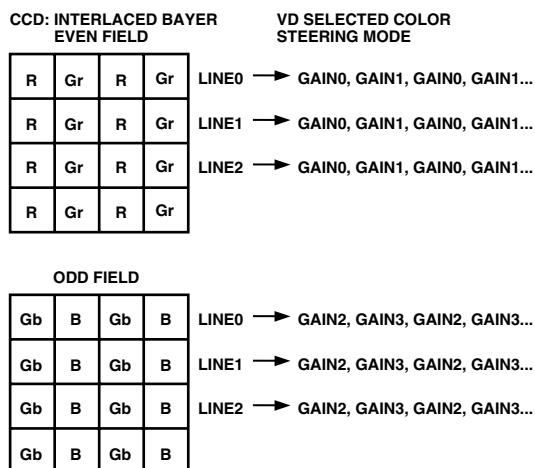
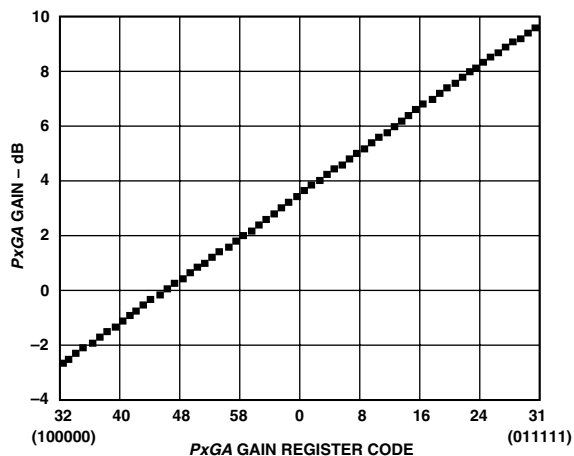

Figure 27. CCD Color Filter Example: Interlaced
Figure 28. *PxGA* Gain Curve
The same Bayer pattern can also be interlaced, and the VD selected mode should be used with this type of CCD (see Figure 27). The color steering performs the proper multiplexing of the R, G, and B gain values (loaded into the *PxGA* gain registers) and is synchronized by the user with vertical (VD) and horizontal (HD) sync pulses. For more detailed information, see the *PxGA* Timing section. The *PxGA* gain for each of the four channels is variable from -2.5 dB to +9.5 dB, controlled in 64 steps through the serial interface. The *PxGA* gain curve is shown in Figure 28.